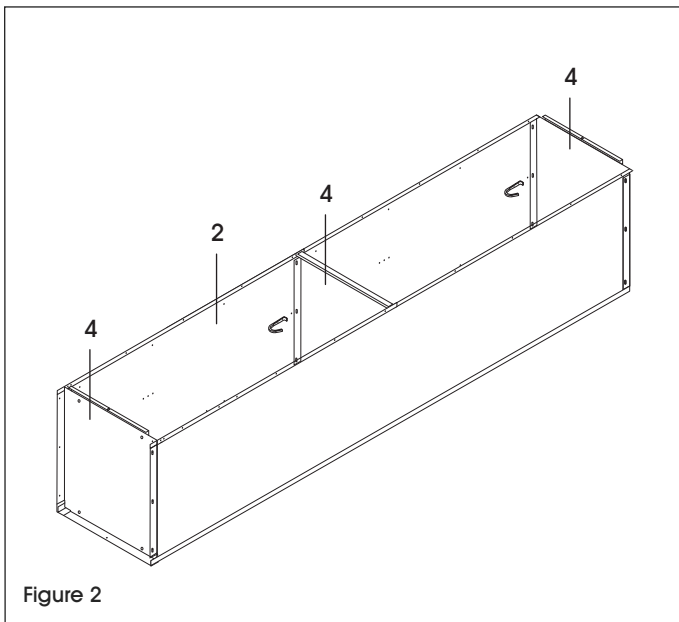

Figure 2
4. Next bolt top (4), bottom (4) and intermediate top (4) to back and left side panel using 4 bolts and nuts each. (See Figure 2)
5. Attach coat hooks (5) to the left side and back panels: